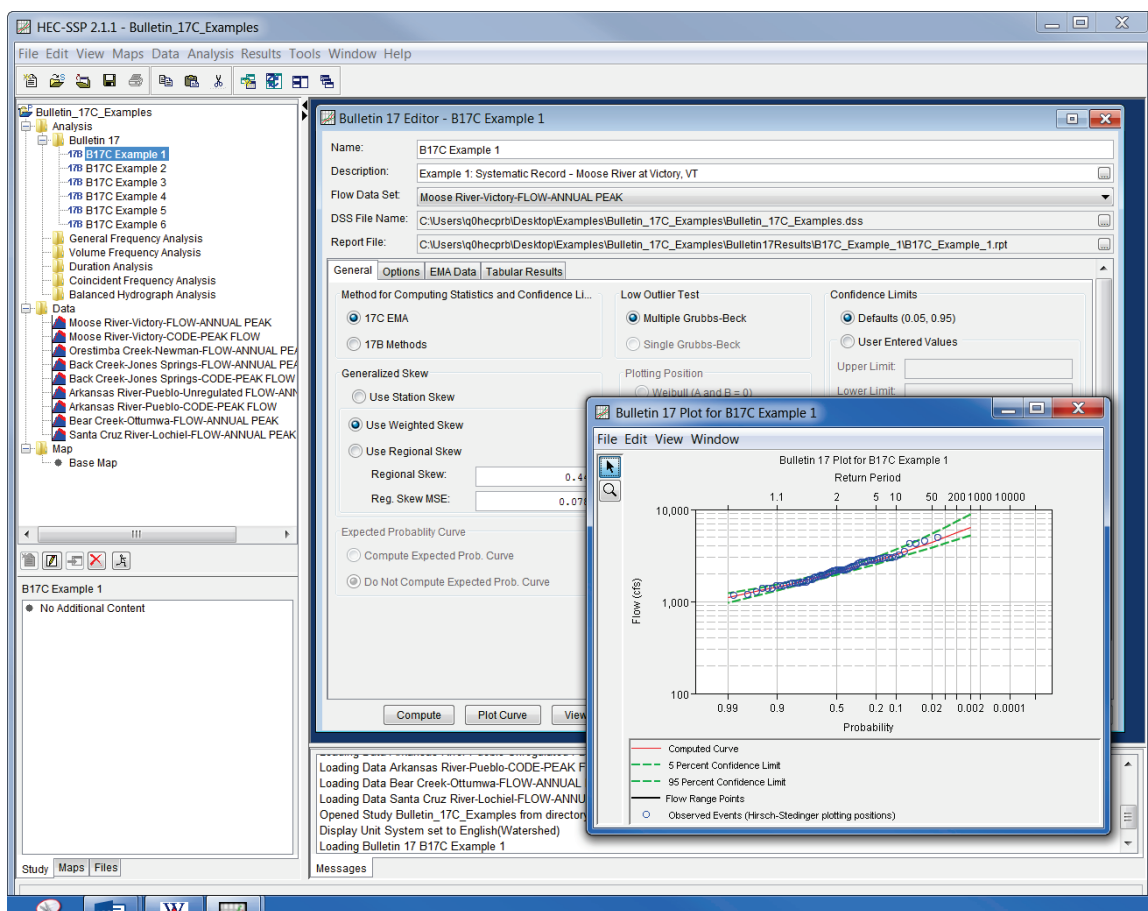
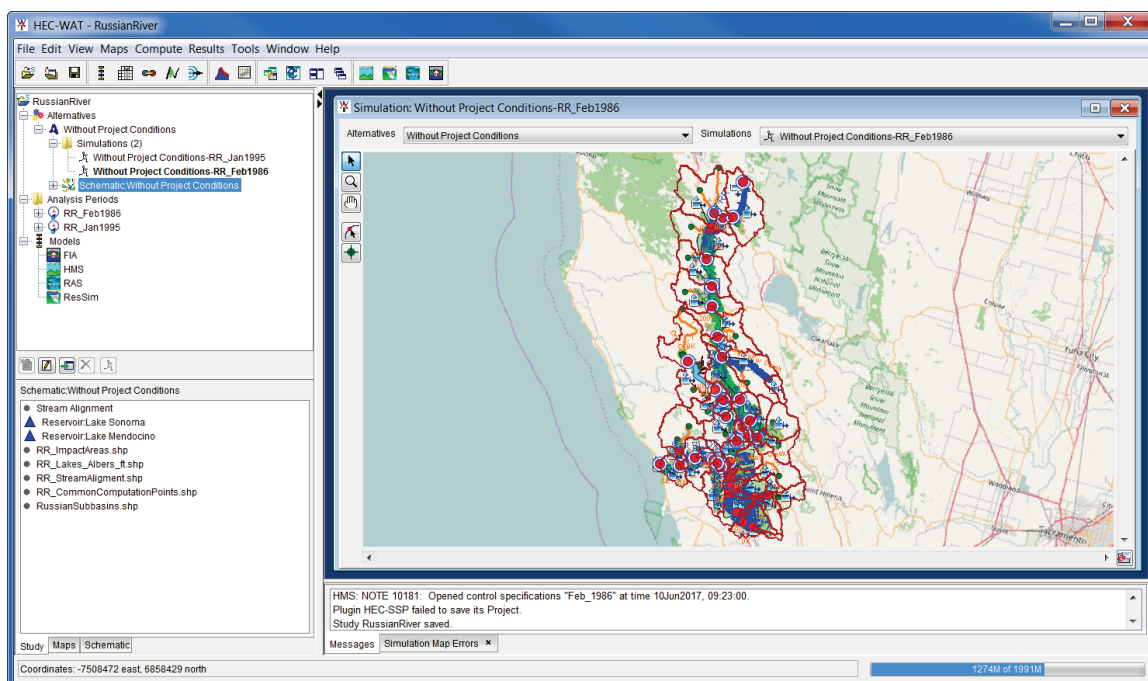
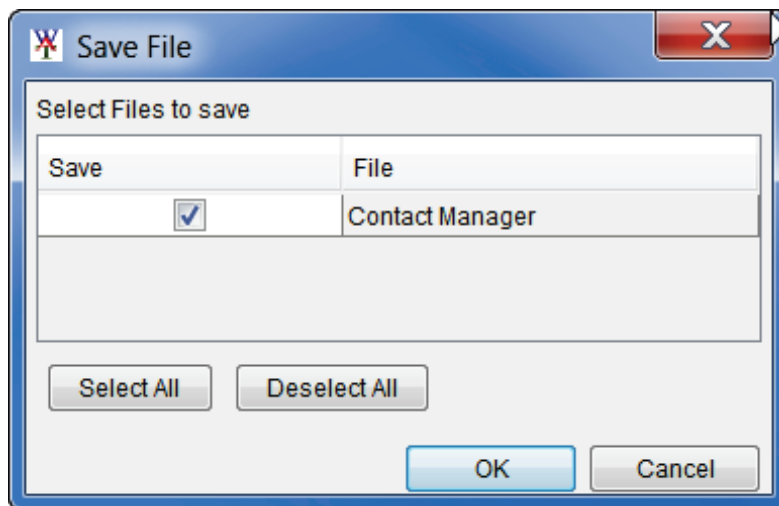
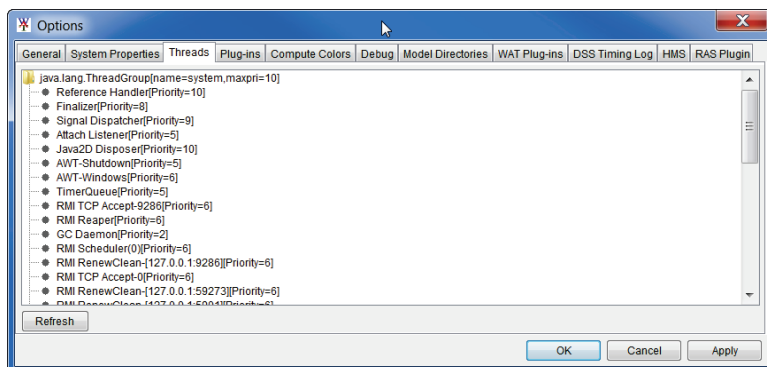

Figure B.1 HEC-SSP Main Window
Figure B.2 HEC-WAT Main Window
Figure B.5 Save File Dialog Box
Figure B.11 Options Dialog Box – Threads Tab
The Statistical Software Package, HEC-SSP, is used to perform statistical analyses of hydrologic data (Figure B.1). The current version of HEC-SSP can perform flood flow frequency analysis based on Bulletin 17B (Interagency Advisory Committee on Water Data, 1982) and Bulletin 17C (England, et al., 2015). The software can also perform a generalized frequency analysis on flow data and other hydrologic data as well; perform a volume frequency analysis on high and low flows; duration analysis; coincident frequency analysis; and, a balanced hydrograph analysis. From HEC-WAT a frequency analysis would be performed at stream gages to create frequency curves that could be used by other software in the HEC-WAT study's program order. See the HEC-SSP User's Manual (CPD-86) for further details.
1. From the HEC-WAT main window (Figure B.2), from the **WAT Tools** toolbar, click , or from the HEC-WAT main window (Figure B.2), from the **Tools** menu, click **HEC-SSP**. Either way, the HEC-SSP main window will open (Figure B.1).
2. To create a new HEC-SSP study, from the HEC-SSP main window (Figure B.1), from the **Study Tree**, right-click on Bulletin 17, or from the **Analysis** menu, point on **New**, click **Bulletin 17 Flow Frequency**. The **Bulletin Editor** will open (Figure B.1).
4. The **General** tab (Figure B.1) is where the user will set the general settings for a frequency analysis. This includes: generalized skew, expected probability curve (frequency curve), plotting positions, and confidence limits.
5. The **Options** tab (Figure B.1) is for optional data like low outlier threshold, historic period data, and user-specified frequency outliers.
6. The last tab is the **Tabular Results** tab (Figure B.1), which is populated after the user clicks **Compute**. This tab contains the computed flow frequency curve, the expected probability adjusted curve, general statistics about the data, and information on the events. Also, the user can view data graphically and in a report form from this tab.
7. The **EMA Data** tab (Figure B.1) is for a Bulletin 17C analysis only.
1. From the HEC-WAT main window (Figure B.2), from the **Tools** menu, click **Options**. The **Options** dialog box will open, click the **General** tab (Figure B.3).
3. When exiting HEC-WAT, the **Save File** dialog box will open (Figure B.5), a list of items that need to be saved will be displayed. Ensure that all selected items are to be saved, click **OK**, the **Save File** dialog box will close (Figure B.5) and the HEC-WAT main window (Figure B.2) will close.
2. By default, the study tree of the current study is synchronized with the active **Map Window** currently displayed in the **Desktop Pane** of the HEC-WAT main window (Figure B.2). If the user does not want the study tree to be synchronized with the active **Map Window**, de-select **Sync Study Tree to Map Window** (Figure B.3).
2. By default, the capability to cascade map windows in the **Desktop Pane** of the HEC-WAT main window (Figure B.2) is set. If the user does not want map windows to cascade, click **Cascade Internal Windows** (Figure B.3), this clears the setting. Map windows will no longer cascade.
studies that display from the HEC-WAT main window (Figure B.2), from the **File** menu, point to **Recent Studies**, will be different.
1. From the HEC-WAT main window (Figure B.2), from the **Tools** menu, click **Options**. The **Options** dialog box will open (Figure B.3), click the **System Properties** tab (Figure B.6).
1. From the HEC-WAT main window (Figure B.2), from the **Tools** menu, click **Options**. The **Options** dialog box will open (Figure B.3), click the **Threads** tab (Figure B.11).
1. From the HEC-WAT main window (Figure B.2), from the **Tools** menu, click **Options**. The **Options** dialog box will open (Figure B.3), click the **Compute Colors** tab (Figure B.13).
1. From the HEC-WAT main window (Figure B.2), from the **Tools** menu, click **Options**. The **Options** dialog box will open (Figure B.3), click the **Debug** tab (Figure B.14).